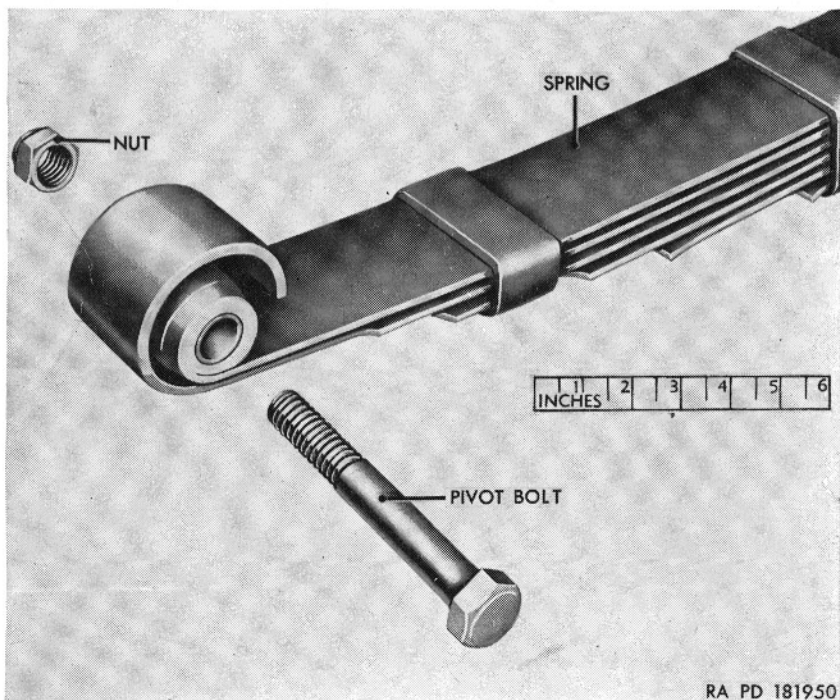

Figure 41.2. (Added) Pivot bolt and pivot bolt end of spring M170—Exploded view.
- (4) Remove the nuts securing the side plate to the spring shackle and remove the plate and grease seals. Unscrew and remove the bushing-type shackle bearing from the shackle, spring eye, and frame side rail.
- (5) Pull the spring shackle, with the grease seals and grease seal retainers, from the eye of the spring assembly and frame side rail (for front spring) or spring bracket (for rear spring).
- (6) Slip the grease seals and the grease seal retainers off the shackle. Remove the lubrication fittings from the shackle.
b. Pivot Bolts Removal (fig. 41.2). Unscrew the safety nut from the pivot bolt. Withdraw the bolt from the spring bracket and bushing-type eye bearing in the spring eye.
b. Pivot Bolts Installation (fig. 41.2). Raise the axle and spring assemblies sufficiently to position the pivot bolt end of spring into pivot bolt bracket. Aline the hole in the spring and the bracket and install the pivot bolt. Install the safety nut on the bolt.